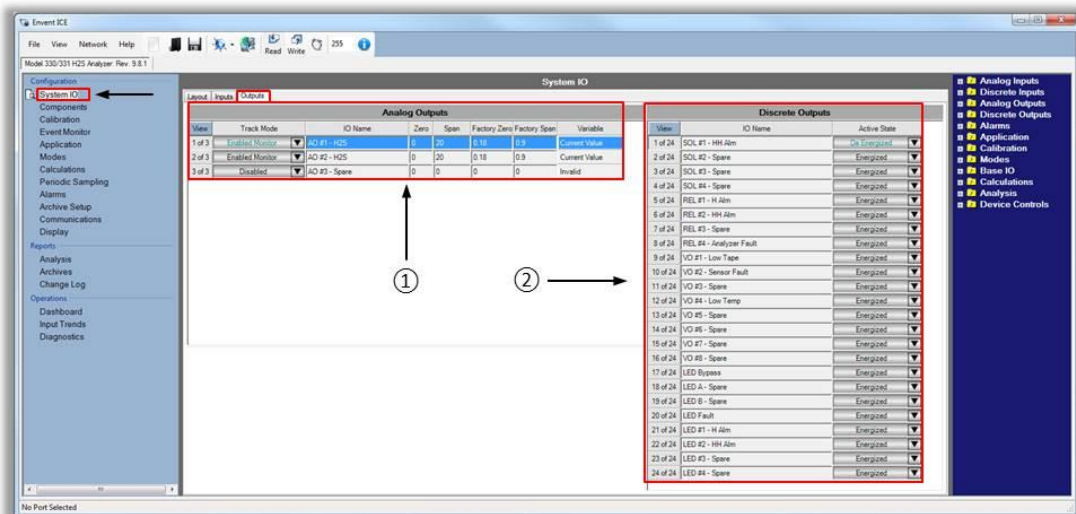

Figure 3. ICE Software: Configuration: System IO Tab: Outputs Tab
In this section of the ICE software, analog and discrete outputs are configured. To access the analog and discrete outputs, go to System IO>Output Tab. Refer to Figure 3.
This option allows activating or deactivating the analog output. Refer to Figure 3 area ①
IO Names are names assigned to the analog outputs. The name is up to the user's discretion. Figure 3 area ① shows the analog output names as "H2S" as default for standard configurations.
These columns refer to the range being measured. Since the variables used for the analog outputs are the analyzer H2S readings, the zero and span values are 0 to 20 ppm of H2S (for standard configurations). Refer to Figure 3 area ①
In this section of the ICE software, discrete outputs are named and their status states are set-up. Refer to Figure 3 area ②.
IO Names are names assigned to the discrete outputs. The name is up to the user's discretion. Names are set-up according to the analyzer standard factory configuration file. These names are based on what alarm variable they are used for. These discrete output names will appear in the Output Controls column in the Alarm tab section. Refer to Figure 3 area ②.
Active state is the condition the discrete output will have when in alarm. If selected as "De-energized", the discrete output will be fail-safe. Refer to Figure 3 area ②.